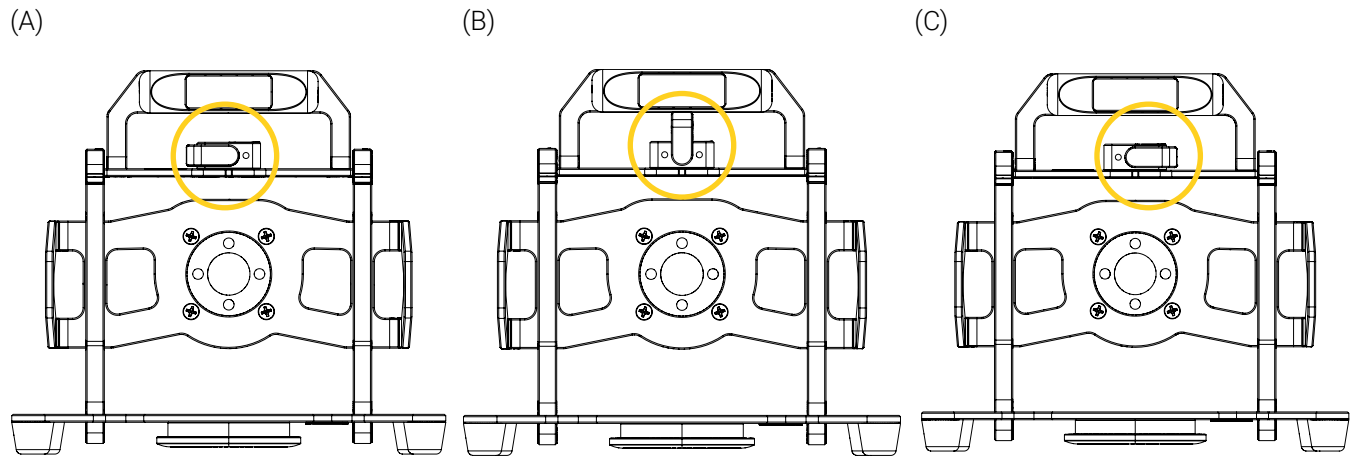

Figure 6: "Unlocked" positions
Turn the quarter-turn latch clockwise or counterclockwise until the latch is pointing towards one (1) of the three (3) "Unlocked" positions (Figure 6).